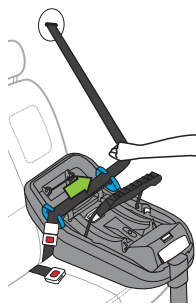

Figure 60a
- Remove slack from vehicle belt around Base by pulling the shoulder belt (the top layer of belt on the Base) out to the side and hold, as shown in **Figure 60a**.